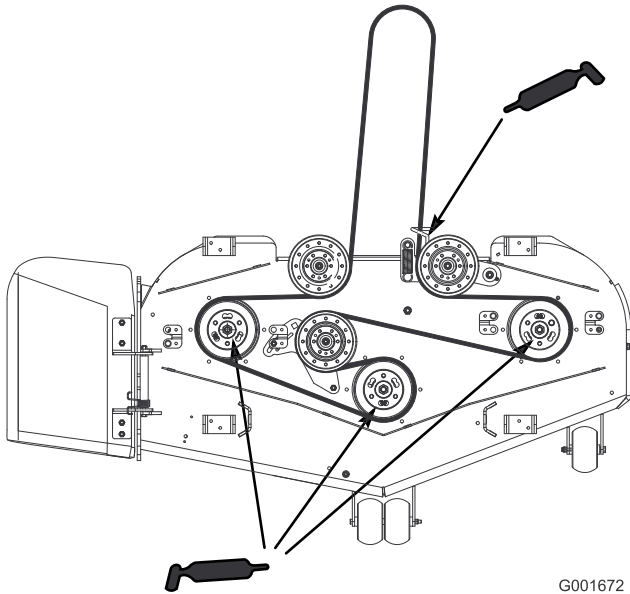

Figure 26
4. Grease the three spindle bearings under the pulleys until grease comes out the lower seals (Figure 26).
5. Grease the idler arm on the mower deck (Figure 26).
6. Grease the fittings on the push arms (Figure 26).